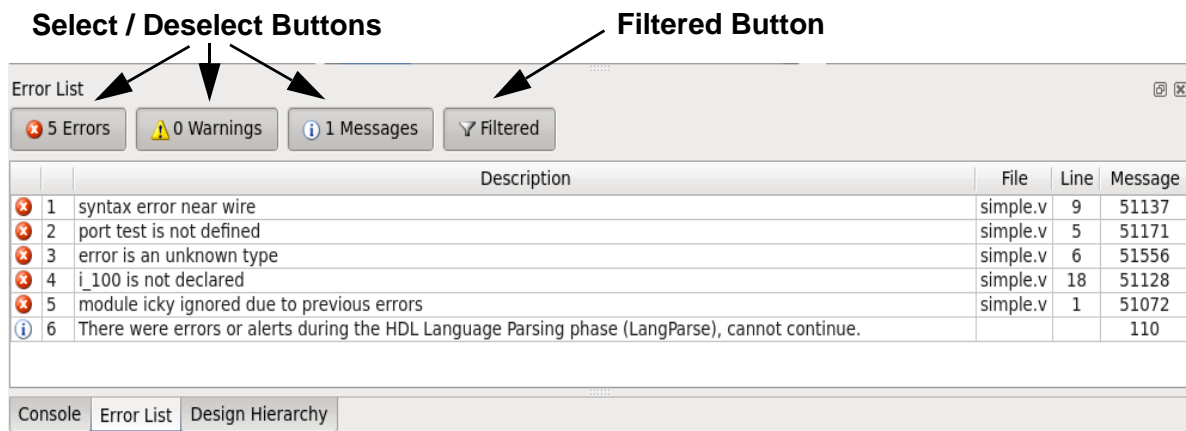

Figure 2-36 Error List Window Buttons
1. Click any of the Select / Deselect buttons to hide or redisplay Errors, Warnings, or Informational Messages from the view (Figure 2-36).